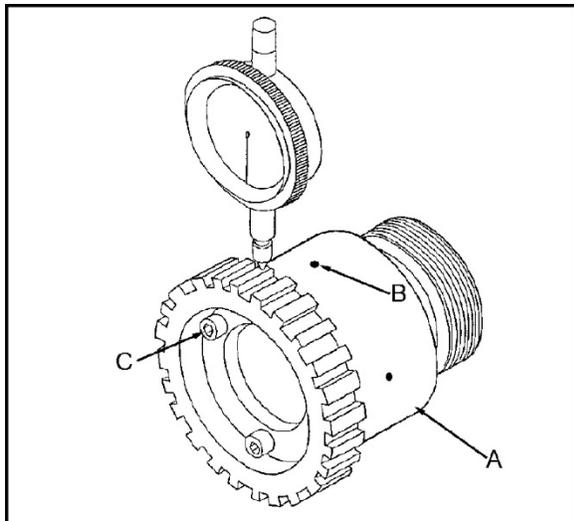

Figure 2
5. Screw coupling assembly (A, Figure 2) onto spindle threads located at rear of spindle.
6. Tighten coupling in place using three hex socket screws (B, Figure 2).
Adjustments can be made by loosening three socket head cap screws (C, Figure 2).